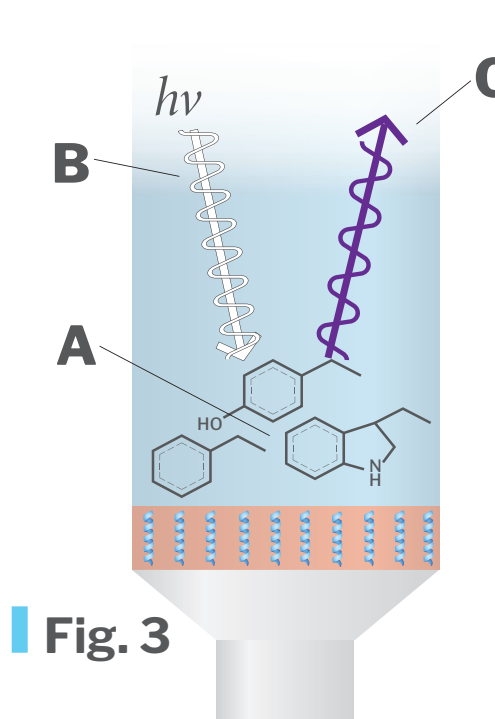

Fig. 3
BCA-No-More™ integrates protein quantification directly into the same S-Trap™ plate used for downstream processing, eliminating both the need for a separate assay and sample loss. This time-saving method accommodates a wide range of lysis buffers that would otherwise disrupt sample preparation. Proteins loaded onto S-Traps™ are initially captured at the top of the column (Fig. 3), becoming more concentrated as the uppermost affinity sites fill. This surface-concentration of proteins with intrinsically fluorescent tryptophan, tyrosine, and phenylalanine residues (A) allows fluorescent protein quantification through top excitation (B) and detection of top emission (C) more protein results in more intense emission.